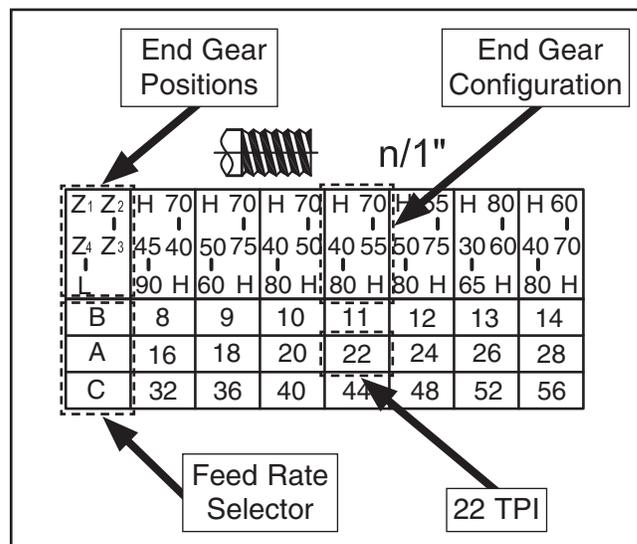

Figure 75. 22 TPI threading configuration.
1. Locate 22 TPI on inch thread chart, then look at numbers provided at the top of column. These are end gears that need to be used in 22 TPI configuration. Note the feed rate selector setting (see Figure 75).